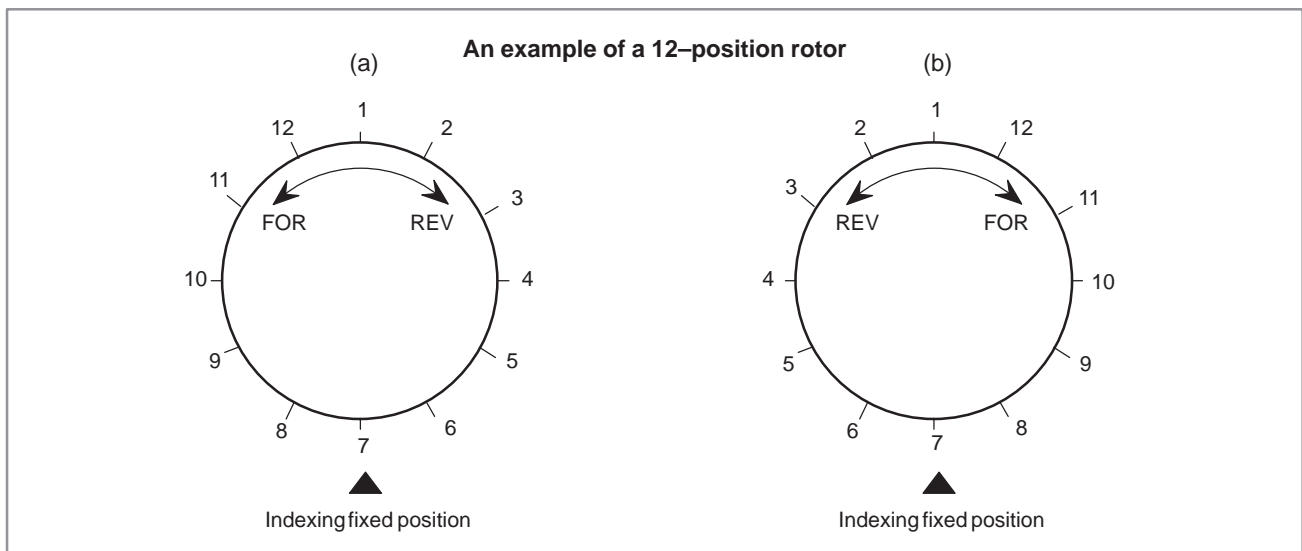

Fig. 5.11.8 Rotation direction
5.11.8 The direction of rotation for control of rotation via the shorter path is output to W1. When W1=0, the direction is forward (FOR) when 1, reverse (REV). The definition of FOR and REV is shown in Fig.5.11.8. If the number given to the rotor is ascending, the rotation is FOR; if descending, REV. The address of W1 can be determined arbitrarily. When, however, the result of W1 is to be used, always check that ACT=1.